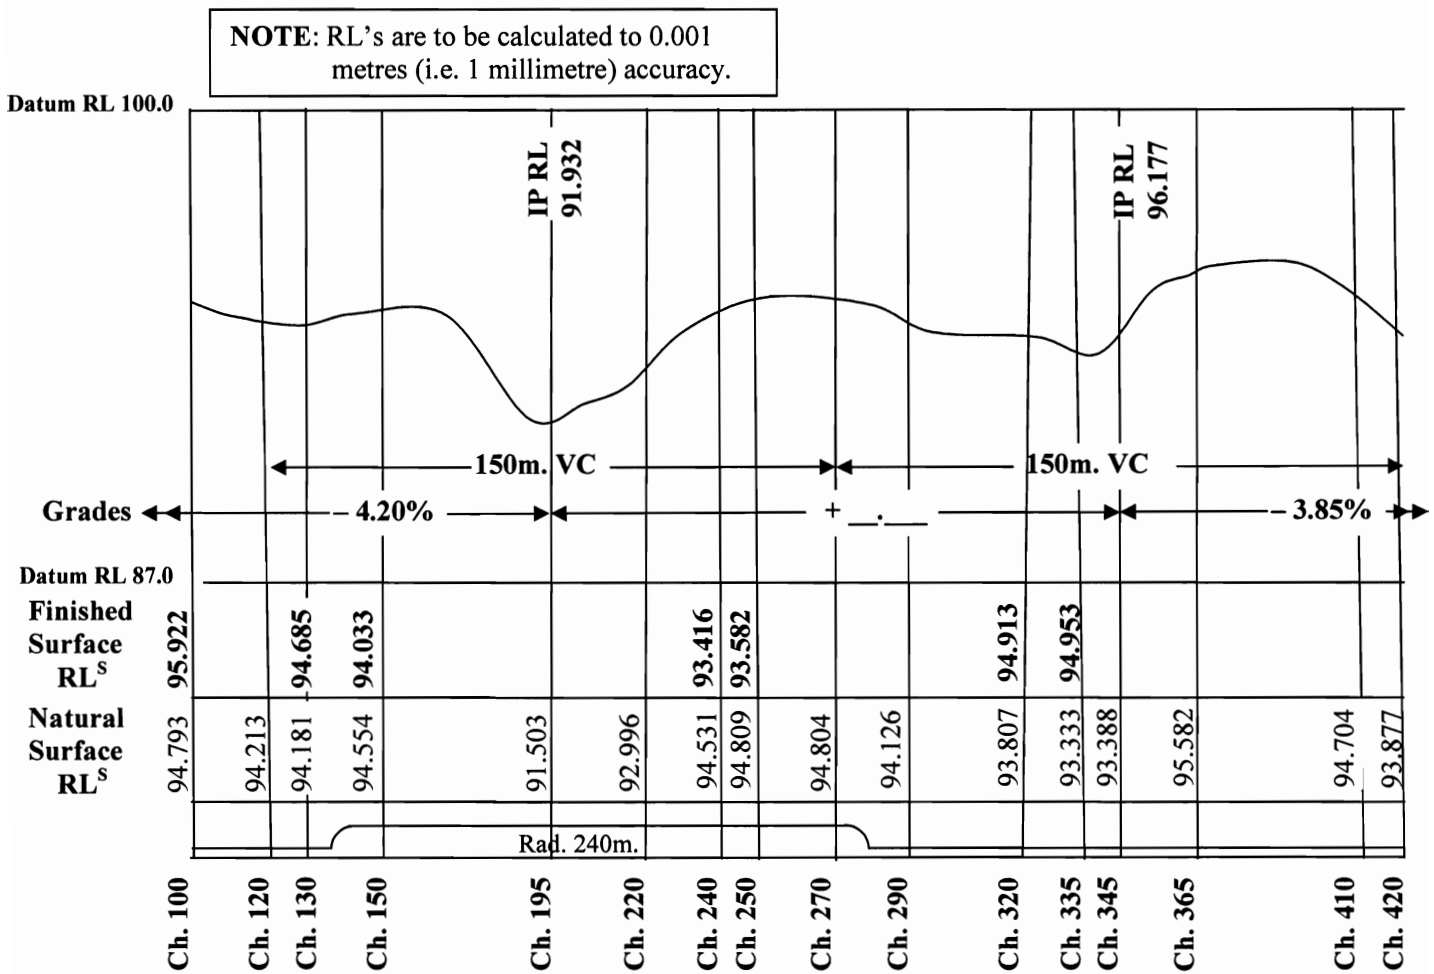

Figure 2
- 1½ (j) Draw in the three grades to scale on the Longitudinal Section (Figure 2).
- 1½ (k) Fit to scale a 150 metre sag VC between the first two grades. Note this VC length (and the VC in part (l)), will not necessarily be the same lengths as the ones you have calculated. (Figure 2).
- 1½ (l) Fit to scale a 150 metre length crest VC between the last two grades. (Figure 2).